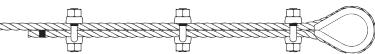

Figure 3
- 3. When three or more** clips are required, space additional clips equally between first two – take up rope slack – use torque wrench to tighten nuts on each clip evenly, alternating from one nut to the other until reaching recommended torque (See Figure 3).